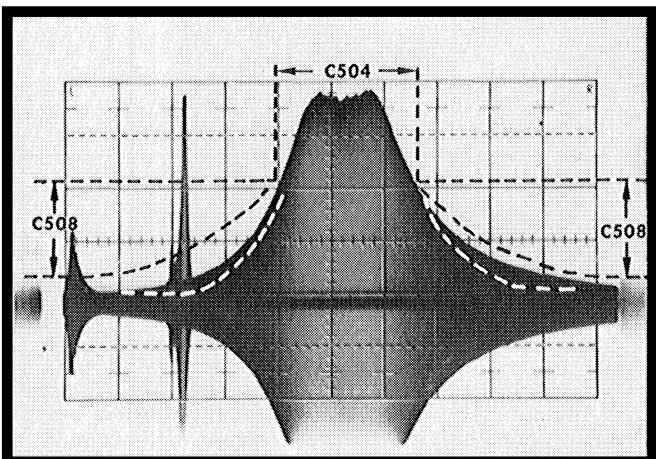
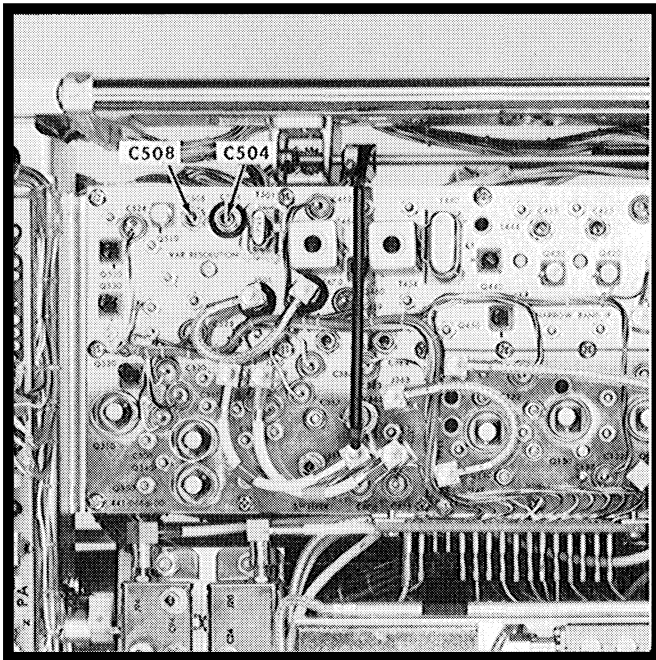

Fig. 6-25. Typical test oscilloscope display when C504 and C508 are adjusted correctly. Dispersion 50 kHz/div, RESOLUTION selector fully clockwise.
Fig. 6-27. Location of C504 and C508.
g. Connect a test oscilloscope through a 10X probe to pin B of the honeycomb square pin connector. Adjust the test oscilloscope sensitivity for a display amplitude of approximately 6 divisions then adjust the Triggering controls for a stable display. See Fig. 6-25. (Test oscilloscope sweep rate should be the same as the analyzer sweep rate.)
i. Set the RESOLUTION selector fully clockwise. Adjust C504 and C508 (Fig. 6-27) for optimum display symmetry on the test oscilloscope. See Fig. 6-25. Adjust C504 for the slope of the response and C508 for symmetry. Turn the RESOLUTION selector counterclockwise one step from fully clockwise position. Adjust C601, C604, C607 and C610 for optimum display symmetry and amplitude.